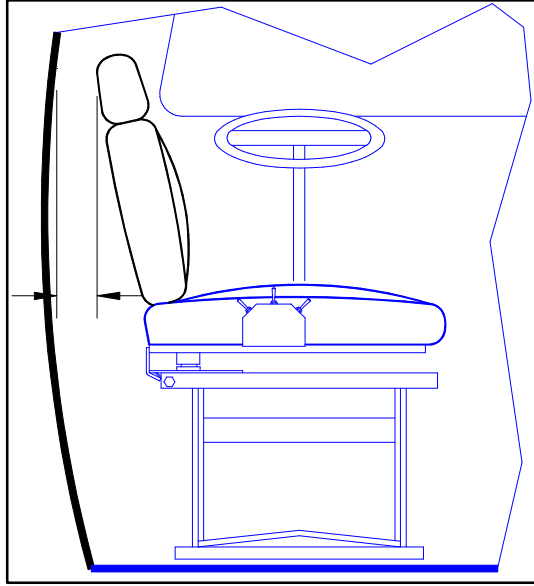

FIGURE 2-6: SEAT-TO-WALL CLEARANCE
- k. Refer to **Figure 2-6**. If applicable, make sure seatback is not reclined and in most upright position. Position entire Power Seat Base to allow adequate clearance between seatback and vehicle wall. Allow additional clearance for seatback flexing when occupied.